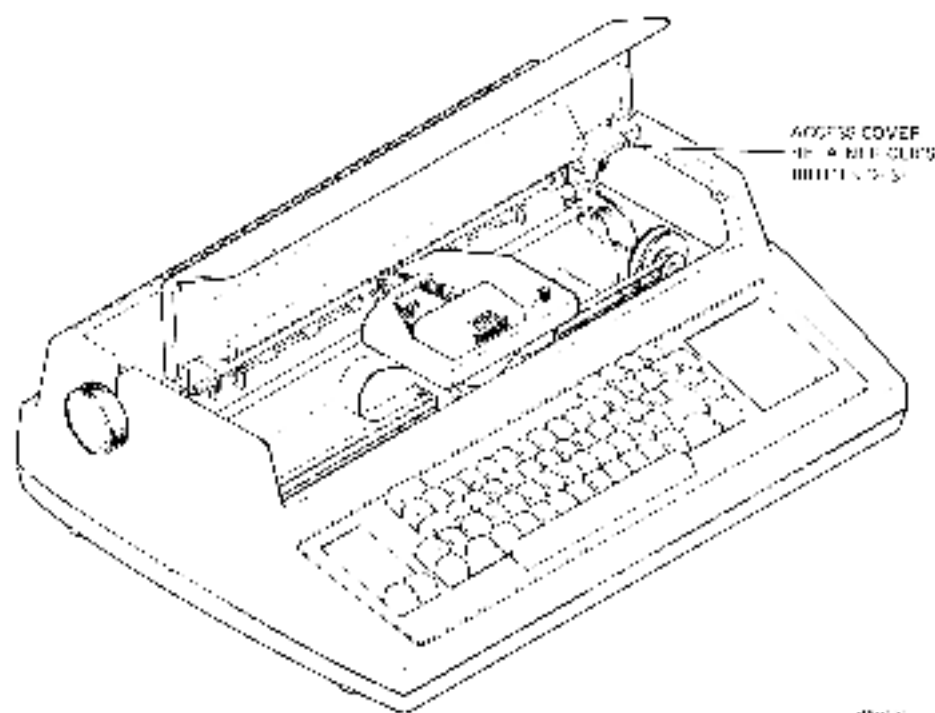

Figure 3-1 Access Cover Removal
3. Remove the access cover by opening it and pressing the two access cover retainer clips at the same time. Lift the cover straight up (Figure 3-1).